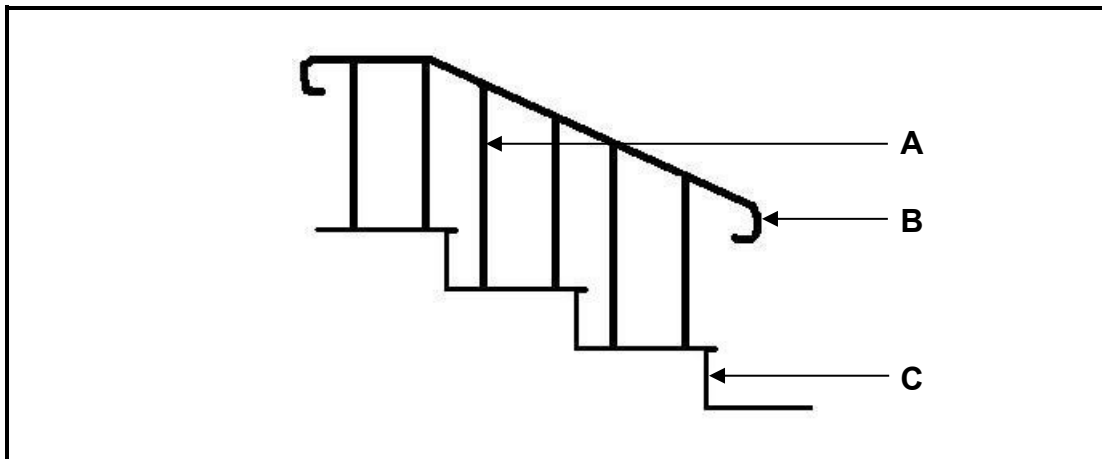

FIGURE 3.7
3.7 Answer the following questions with regard to the staircase in FIGURE 3.7.